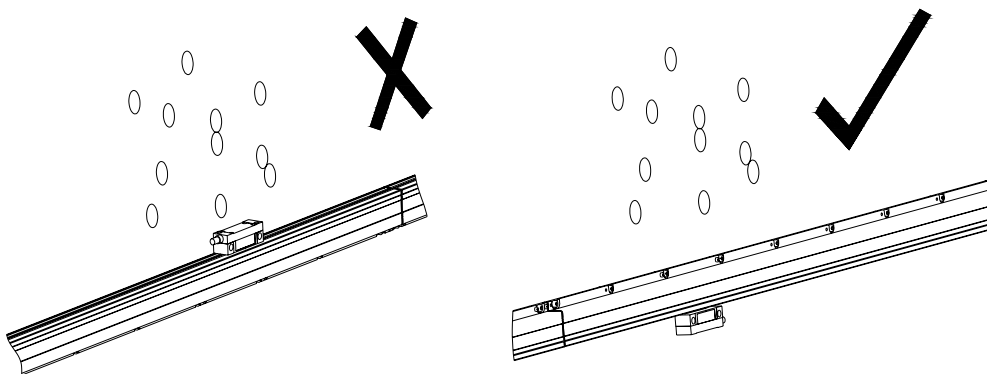

Fig. 5.1 Do not reverse!
- (1) To install the magnetic scale, the scale shall be kept parallel with the lathe guide rail.
- (2) The center of the measuring range of magnetic scale shall be located at the center of the lathe travel. In addition, ensure that the actual measuring range of the magnetic scale is at least 50mm greater than the maximum travel of the lathe.
- (3) The magnetic scale shall be located as near as possible to the transmission screw rod of lathe. Mostly, the magnetic scale will move together with the workbench after installation, and the read head is fixed on the lathe, namely it is better that the wire does not move.
- (4) The magnetic scale shall be so installed that the operation of lathe is not blocked and the instinctive functions of the lathe are not degraded.
- (5) The magnetic scale shall be installed so that it will not be hit during machining, not block the operation of any lathe handle, braking device or other projections, and not be touched easily during workpiece loading or unloading.
- (6) The magnetic scale shall be installed correctly as shown in Fig. 5.1 (with the read head upwards and body downwards). Do not expose the sealing side on the body right to the coolant injection of the lathe.